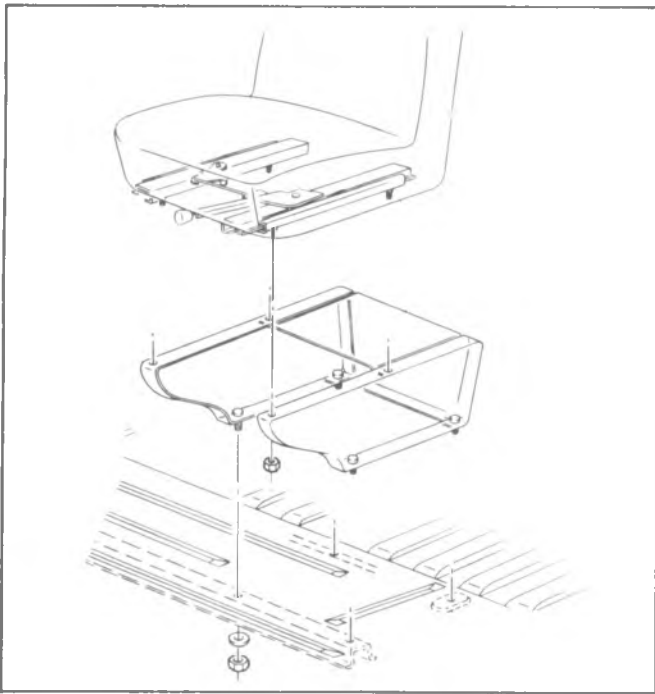

Fig. 2D-129-Driver's Seat
1. Remove seat and brackets from seat riser. See figure 2D-130.